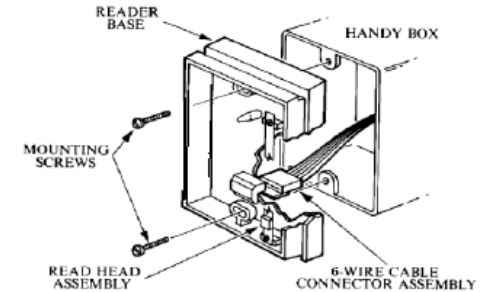

Figure 1
2. The reader can be mounted on a standard single-gang handy box, (the preferred method) or on any firm flat surface. The mounting screws should be firmly tightened, but not excessively. Note that the read head assembly screws are purposely loose to allow the head to "float"; no adjustments are necessary. See Figure 1.